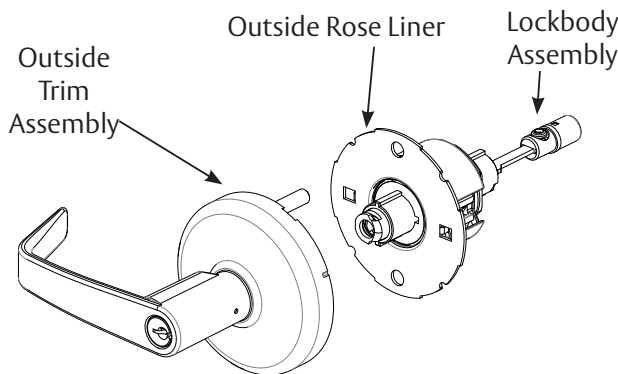

Figure 5
1. Remove outside trim assembly from the lockbody assembly. The lever, rose, and spring housing will remove as one piece from the lockbody (See Figure 5).